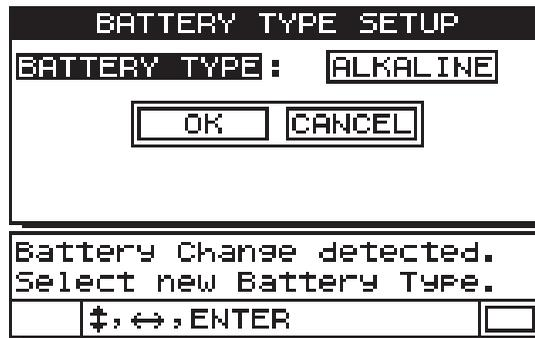

Figure 2-3 Selecting the battery type
11. To answer the battery type setup question displayed at the bottom of the screen, use the right or left arrow keys, and then press [ENTER] (see Figure 2-3 on page 26):